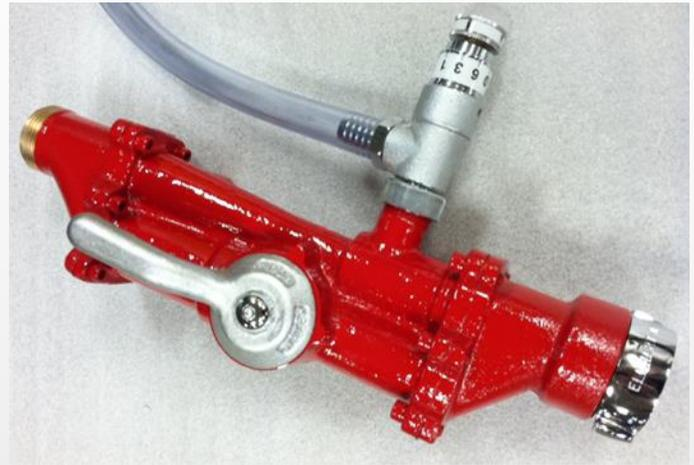

Figure 5 (Water)
- Place the bypass valve handle in the WATER position (see Figure 5).